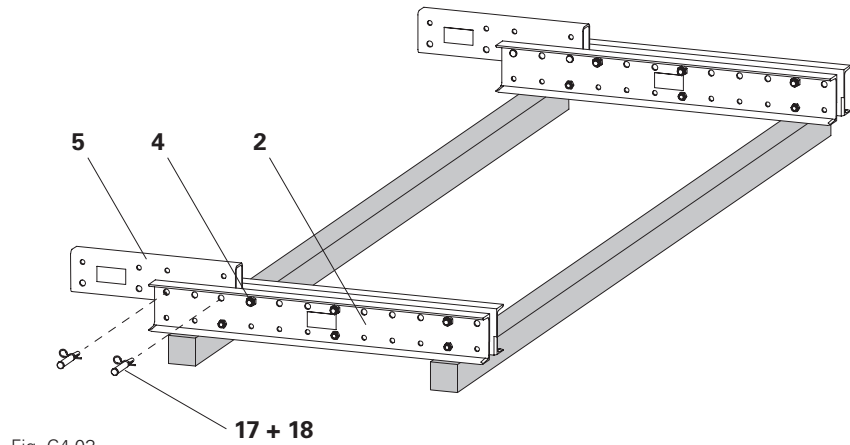

Fig. C4.03
2. Fit the climbing rail connector (**5**) at the upper end of the climbing rail (**2**) with 2x filler pins \varnothing 26 mm (**17**) and cotter pins 5/1 (**18**). (Fig. C4.03)